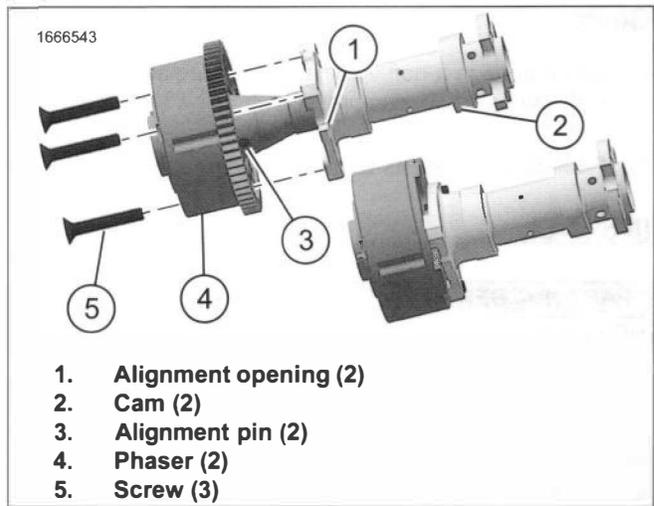

Figure 4-42. Phaser and Camshaft
7. Remove hydraulic lash adjusters (2).
- a. See Figure 4-42. Remove cam phaser screws (5).
- b. Remove Phaser (4) from cam (2).
- a. See Figure 4-42. Slide alignment pin (3) into alignment opening (1).
- b. Install screws (5). Tighten.